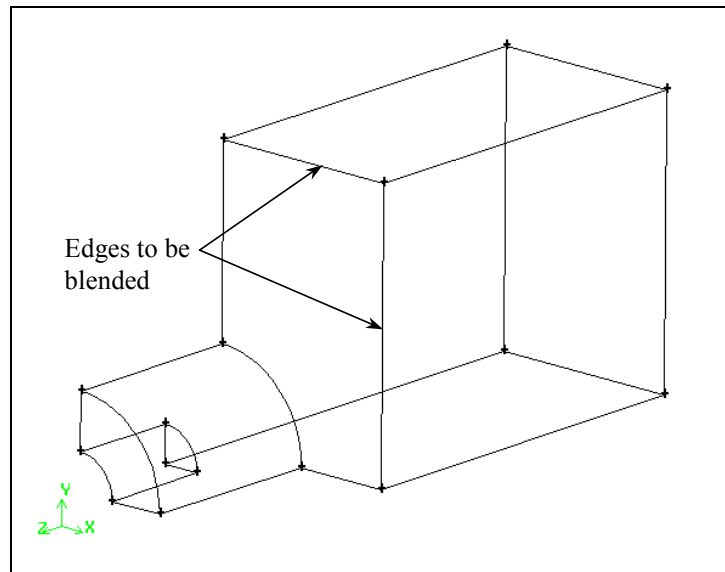

Figure 4-11: Edges to be blended
- i. *Shift-left-click* the two edges to be blended, as shown in Figure 4-11.